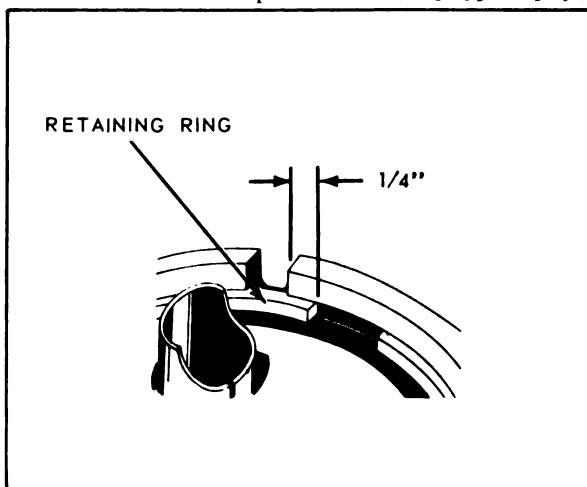

Figure 3-47. Location of End of Retaining Ring
- h. Replace retaining ring so that end of ring is about 1/4 inch from removal slot as shown in figure 3-47. This will simplify future disassembly.
h. Replace retaining ring so that end of ring is about 1/4 inch from removal slot as shown in figure 3-47. This will simplify future disassembly.